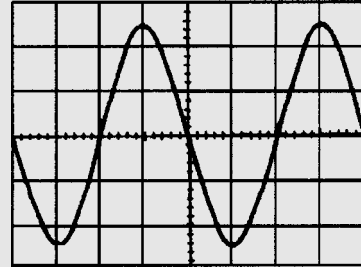

Figure RT3.1
- A conductor, 25 cm long is situated at right angles to a magnetic field. Determine the strength of the magnetic field if a current of 12 A in the conductor produces a force on it of 4.5 N. (3)
- An electron in a television tube has a charge of 1.5×10^{-19} C and travels at 3×10^7 m/s perpendicular to a field of flux density $20 \mu\text{T}$. Calculate the force exerted on the electron in the field. (3)
- A lorry is travelling at 100 km/h. Assuming the vertical component of the earth's magnetic field is $40 \mu\text{T}$ and the back axle of the lorry is 1.98 m, find the e.m.f. generated in the axle due to motion. (4)
- An e.m.f. of 2.5 kV is induced in a coil when a current of 2 A collapses to zero in 5 ms. Calculate the inductance of the coil. (4)
- Two coils, *P* and *Q*, have a mutual inductance of 100 mH. If a current of 3 A in coil *P* is reversed in 20 ms, determine (a) the average e.m.f. induced in coil *Q*, and (b) the flux change linked with coil *Q* if it is wound with 200 turns. (5)
- A moving coil instrument gives a f.s.d. when the current is 50 mA and has a resistance of 40Ω . Determine the value of resistance required to enable the instrument to be used (a) as a 0–5 A ammeter, and (b) as a 0–200 V voltmeter. State the mode of connection in each case. (8)
- An amplifier has a gain of 20 dB. Its input power is 5 mW. Calculate its output power. (3)
- A sinusoidal voltage trace displayed on an oscilloscope is shown in Fig. RT3.1; the 'time/cm' switch is on 50 ms and the 'volts/cm' switch is on 2 V/cm. Determine for the waveform (a) the frequency (b) the peak-to-peak voltage (c) the amplitude (d) the r.m.s. value. (7)
- With reference to a p-n junction, briefly explain the following terms: (a) majority carriers (b) contact potential (c) depletion layer (d) forward bias (e) reverse bias (10)
- Briefly describe each of the following, drawing their circuit diagram symbol and stating typical applications: (a) zenor diode (b) silicon controlled rectifier (c) light emitting diode (d) varactor diode (e) Schottky diode (20)